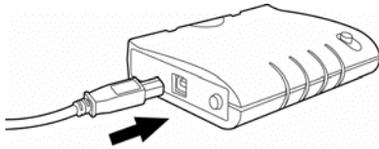

Fig. 2-20
4. Plug the square end of the USB cable into the Logic Analyzer(Fig.2-20).